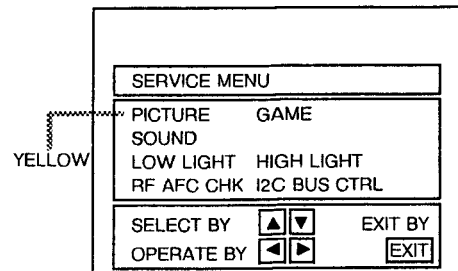

Fig. 1
- 1) Press the DISPLAY KEY and VIDEO STATUS KEY of the REMOTE CONTROL UNIT at the same time to display the SERVICE MENU screen shown in Fig.1.